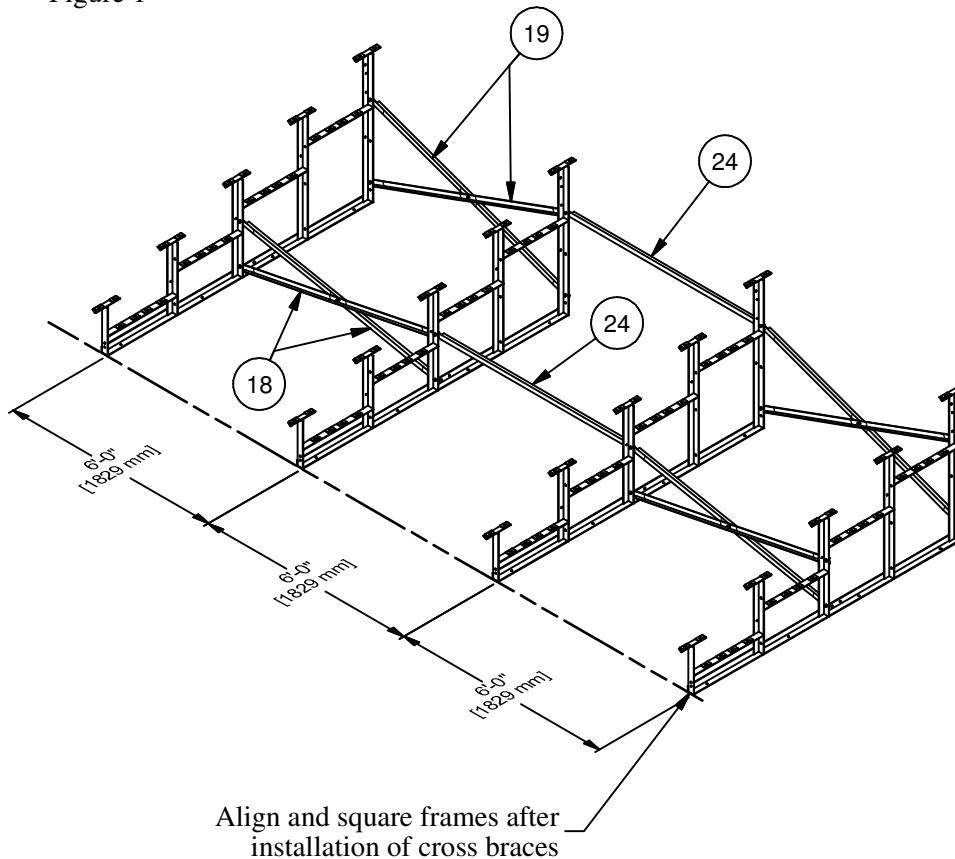
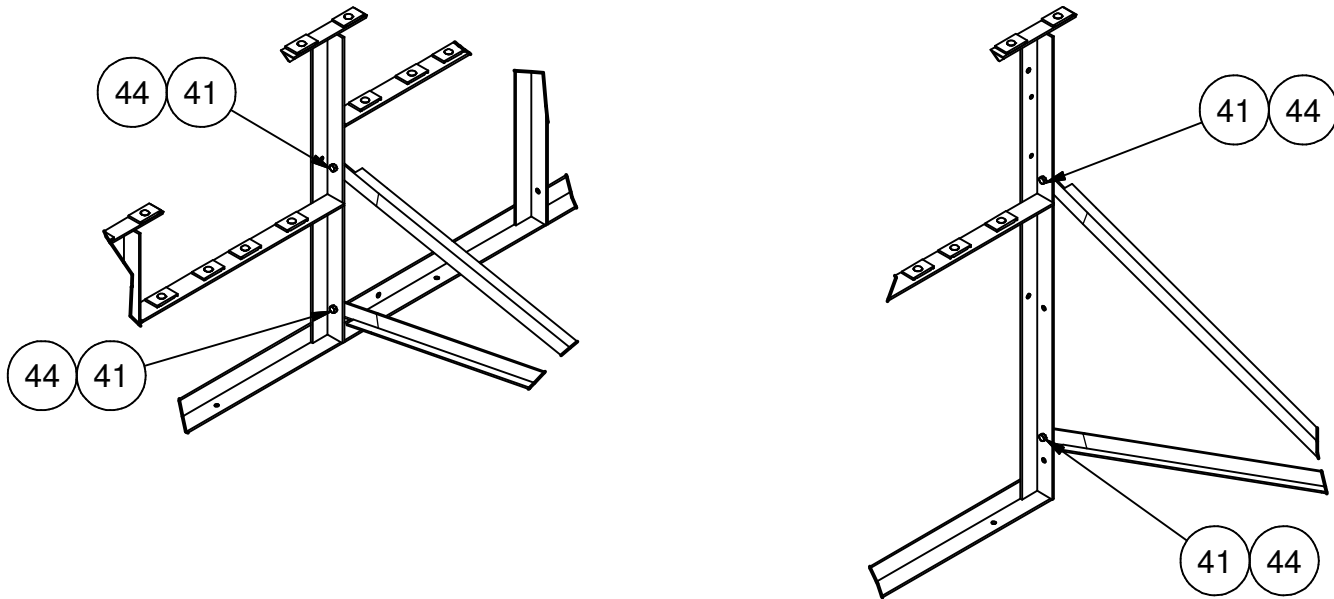

Figure 3
Figure 4
3. Lay out the Frame weldments approximately 6' apart. Refer to figure 3 for proper frame spacing. Install the brace sub-assemblies from step 2 using the 3/8" x 1" hex bolts and 3/8" whizlock nuts as shown in Figure 4. Cross braces are connected to the frames at verticals 3 and 5. Refer to figure 3 for item number and page 2 for brace angle length. NOTE: Cross braces are located in the end bays. Straight spacer braces are located in the center bay at row 3 and row 5 only. After all braces are installed, square the frame and make sure the front of the frame is in line.